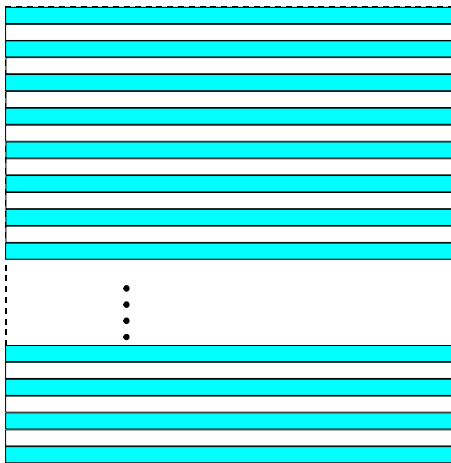

Fig. 62: Decimation of 2 (Mono Cameras)
- 2 for mono cameras: only every other row of the acquired frame will be transmitted out of the camera (Figure 62).